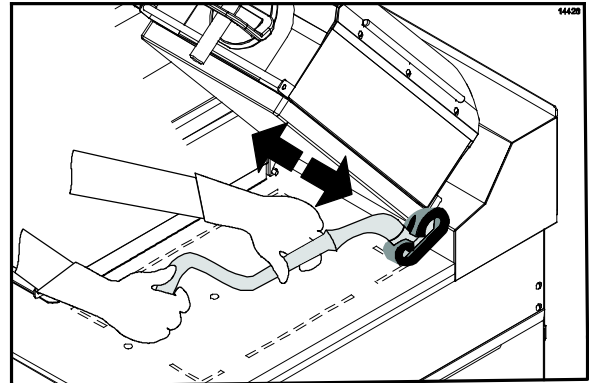

Figure 56
26. Scrub the back side of the platens from the right platen to the left platen. (See Figure 56.)